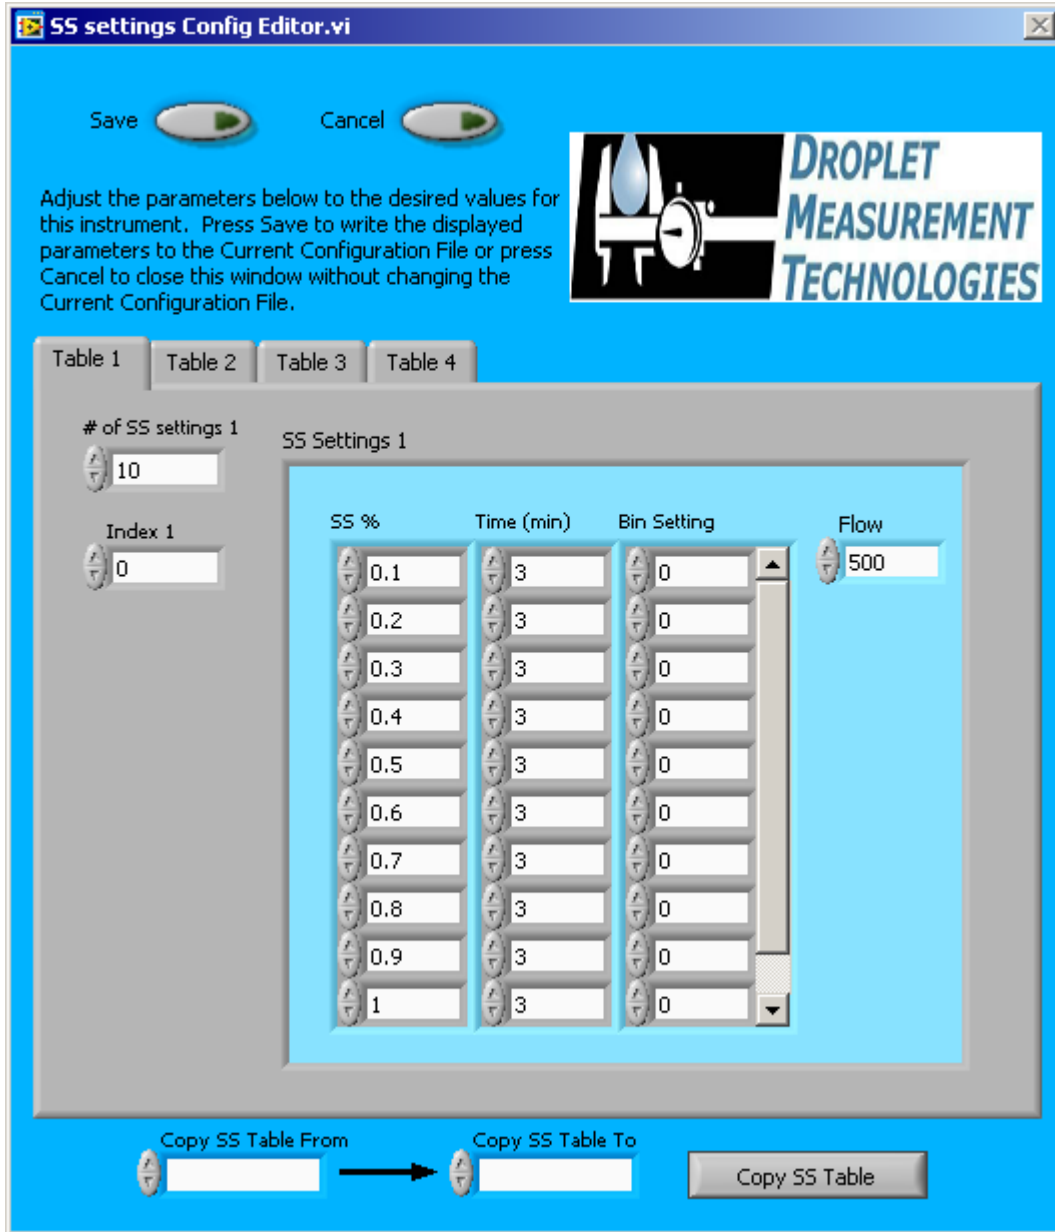

Figure 41: Program for Setting the Supersaturation Tables
The program **CCN SS Settings Config Editor.exe** allows the user to create up to four predefined tables for operating the CCN in a scanning mode with variable supersaturation and time periods. (Users can also enter manual values for SS% and Delta T Set (C); see section 12.1.1.2). Figure 41 shows the configuration editor program.